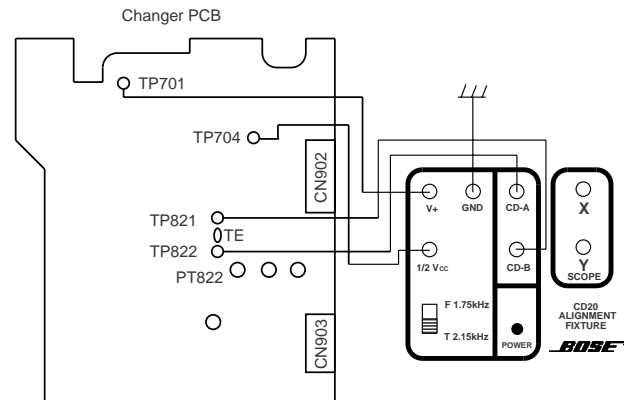

Figure 4. Tracking Gain Alignment
4.2 Remove the solder from the point labeled TE and connect the alignment fixture as shown in Figure 4.